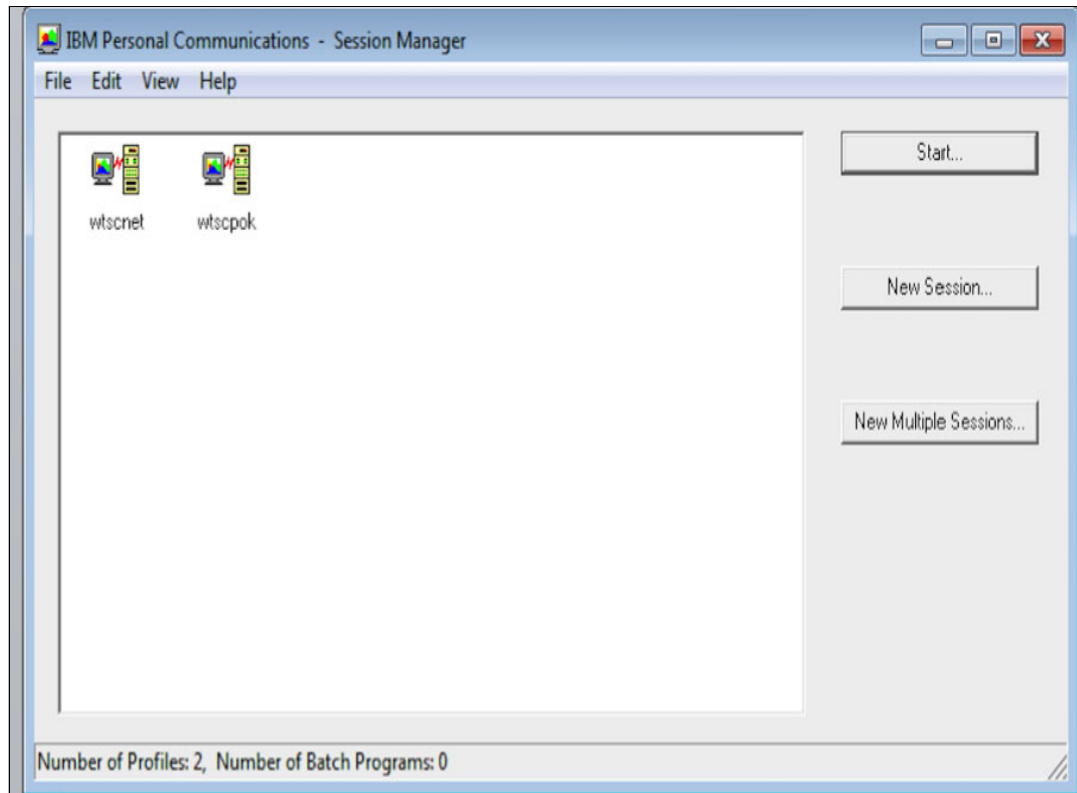

Figure 7-21 New Session window
2. The IBM Personal Communications Sessions Manager panel is displayed, as shown in Figure 7-21. We click **New Session**.